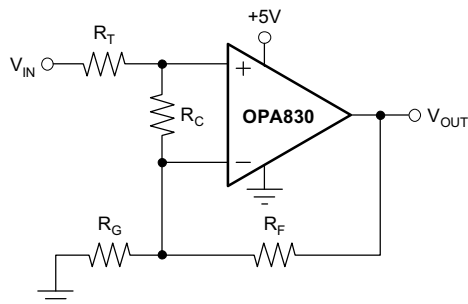

Figure 59. Compensated Non-Inverting Amplifier
For the non-inverting amplifier with reduced peaking design, the design parameters needed in Figure 59 with noise gain = 2 are listed in Table 1.
Frequency response in a gain of +2 may be modified to achieve exceptional flatness simply by increasing the noise gain to 3. One way to do this, without affecting the +2 signal gain, is to add a 2.55kΩ resistor across the two inputs, as shown in Figure 59. A similar technique may be used to reduce peaking in unity-gain (voltage follower) applications. For example, by using a 750Ω feedback resistor along with a 750Ω resistor across the two op amp inputs, the voltage follower response will be similar to the gain of +2 response of . Further reducing the value of the resistor across the op amp inputs will further dampen the frequency response due to increased noise gain. The OPA830 exhibits minimal bandwidth reduction going to single-supply (+5V) operation as compared with ±5V. This minimal reduction is because the internal bias control circuitry retains nearly constant quiescent current as the total supply voltage between the supply terminals is changed.
The criterion for setting this R_S resistor is a maximum bandwidth, flat frequency response at the load. For a gain of +2, the frequency response at the output terminal is already slightly peaked without the capacitive load, requiring relatively high values of R_S to flatten the response at the load. Increasing the noise gain will also reduce the peaking (see Figure 59).
Figure 59 shows a non-inverting amplifier that reduces peaking at low gains. The resistor R_C compensates the OPA830 to have higher Noise Gain (NG), which reduces the AC response peaking (typically 5dB at $G = +1$ without R_C) without changing the DC gain. V_{IN} needs to be a low impedance source, such as an op amp. The resistor values are low to reduce noise. Using both R_T and R_F helps minimize the impact of parasitic impedances.